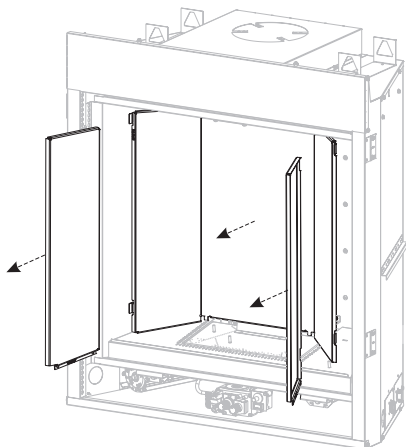

Figure 7
4. Remove log set and decorative media. Remove brackets and liners if installed. Retain bracket and screws for reassembly. **See Figure 7. (Reflective liners shown)**
19. Replace liner and bracket if removed in step 4. **See Figure 7.**